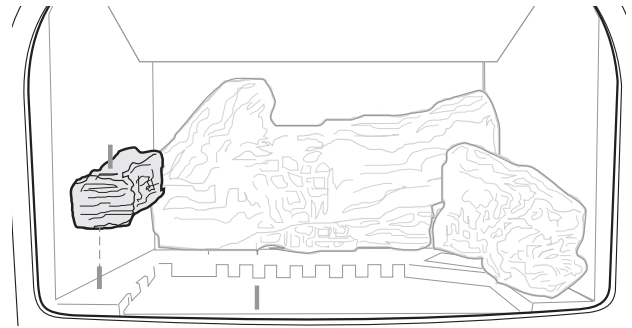

Figure 13. Install Left Log.
3. Place the Left Log on the peg as in fig. 13.